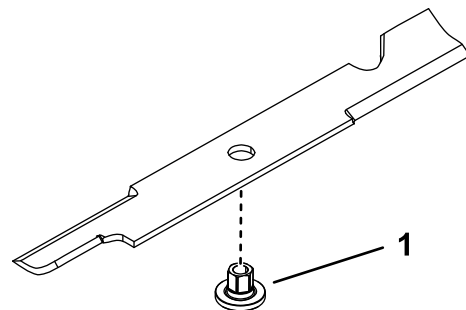

Figure 86
1. Install the bushing through the blade with the bushing flange on the bottom (grass) side of the blade (Figure 86).